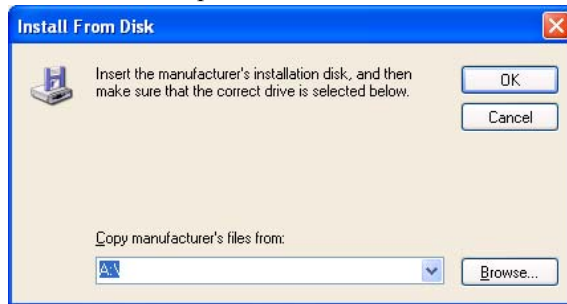

Figure 5.14
8. Click **Browse...** button (see Figure 5.14), and choose “wceusbsh.inf” in the folder you have created in the step 2 of **Install USB Driver to Your PC** on page 32.